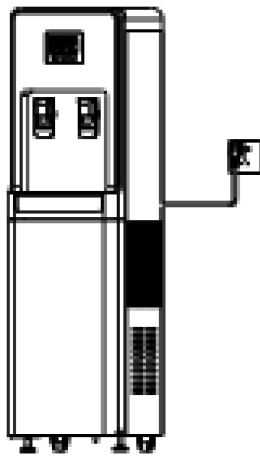

Figure 1 · Disconnect the appliance from the socket
1. Unplug the appliance (Figure 1).
1. Unplug the appliance from the wall socket (Figure 1).
1. Disconnect the appliance from the power supply (Figure 1).